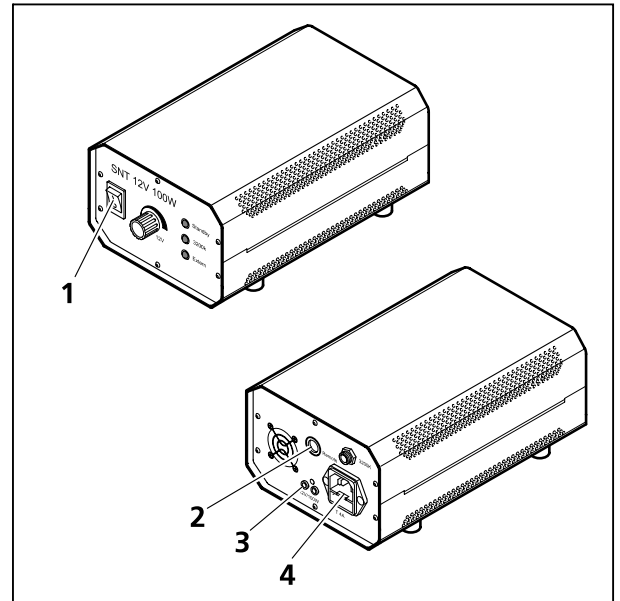

Fig. 3-37 Auxiliary power supply unit HAL 100 (front and back)
- Connect the 3-pin HAL 100 plug to the separate auxiliary power supply unit (Fig. 3-37/3).
- Connect the power cord of the auxiliary power supply unit (Fig. 3-37/4) with an electrical outlet.
- Switch on the halogen lamp for transmitted light (lower stand part for HAL 100 illumination) and reflected light (if in use) at its separate auxiliary power supply unit (Fig. 3-37/1) accordingly (also refer to the separate operation manual of the auxiliary power supply unit).